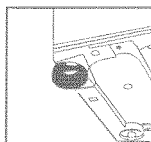

Figure 3
- Adjusting the position of the washing machine. There are adjustable feet under the bottom of the washing machine. Before use, the washing machine should be adjusted, as shown in Figure 3, so that it is balance.